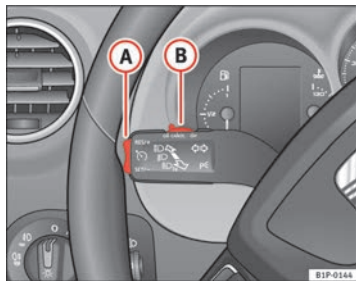

Fig. 132 Turn signal and main beam headlight lever: switch and rocker switch for the cruise control
- Press the lower part **SET/SET** of the rocker switch ⇒ fig. 132 **A** once briefly when you have reached the speed you wish to set.